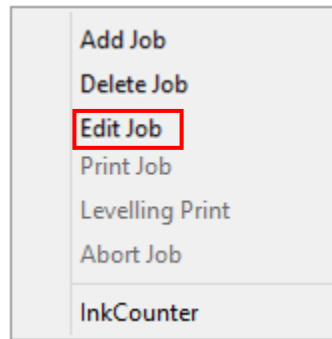

Fig 41: Selecting the Edit Job Option
Step 2: Navigate to the location where the image file with extension **“.prt”** and **“.prn”** is stored (Refer to Fig 41).